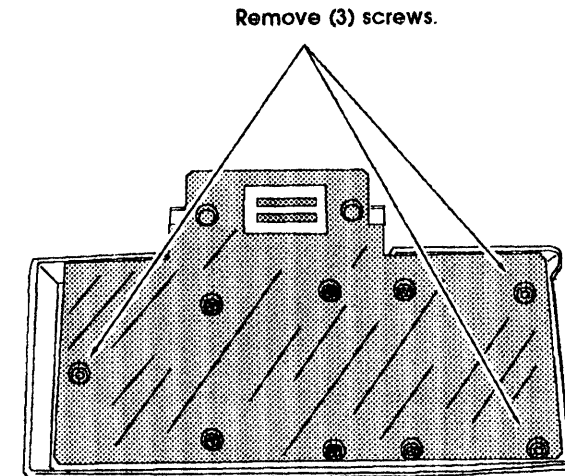

Figure 5.1 – A530 Case securing screws.
- 4) Gently, turn the A530 upside down. The bottom will look like Figure 5.1.
- 5) Using a cross-point screwdriver, remove the three screws indicated in Figure 5.1. **Remove only the indicated screws!**